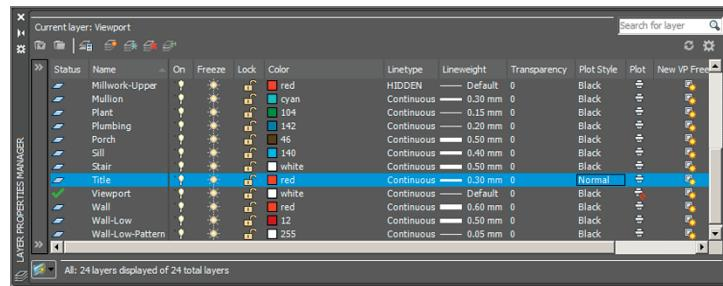

FIGURE 14.10 Configuring named plot styles by layer
2. Click the Title layer in the Layer Properties Manager to select it; all the other layers automatically deselect. Click the Plot Style on the Title layer, and change it to **Normal** in the Select Plot Style dialog box that appears (see Figure 14.10). The title text will now plot in red.